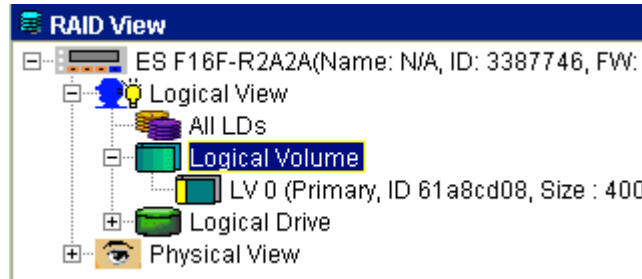

Figure 8-51: List of LVs
- Step 1.** Select the “**Logical Volume**” icon from the Logical View navigation panel shown in *Figure 8-1*. As shown in *Figure 8-51*, all the LVs that have been created will appear below the “**Logical Volume**” icon.